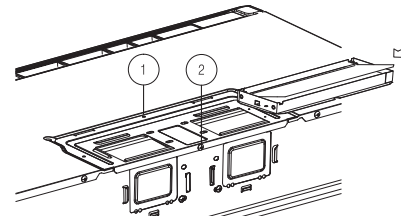

Figure 16
- Carefully match the exhaust opening location of the microwave and attach the damper to blower motor cover by sliding it into the guides at the blower motor cover. See Figures 16, 17.